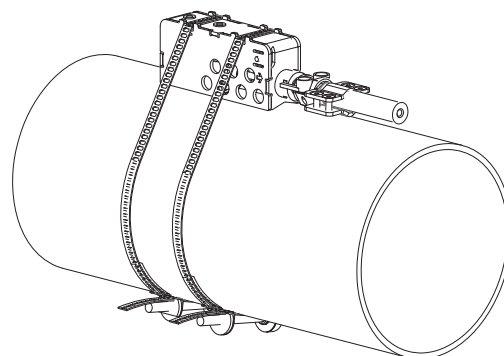

Fig. 9.50: Transducer in the mounting shoe, installed with tension strap and clasp
- Insert the other end of the tension strap into the groove on the upper side of the transducer shoe (see Fig. 9.50).